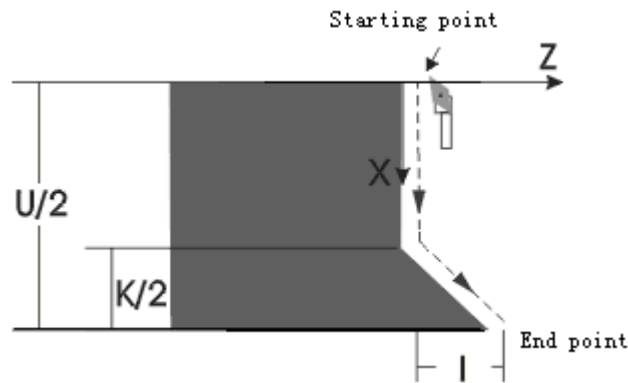

Fig. 4-12
4) G33 end face straight thread: as Fig. 4-12